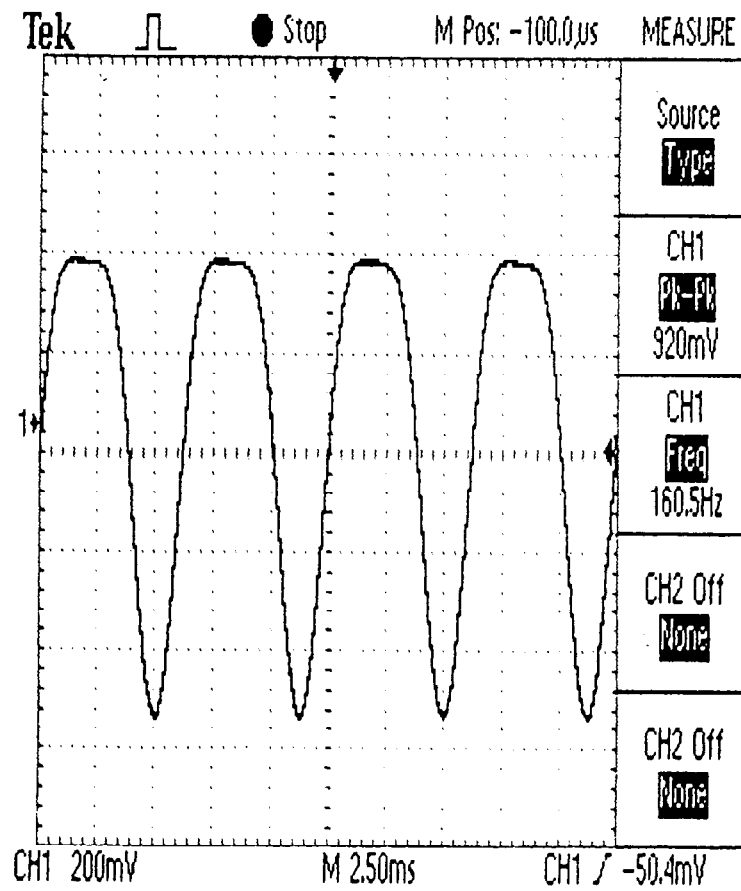

Figure 5
- iii A curve will show with a reading of >0.4 Vp-p (figure 5).